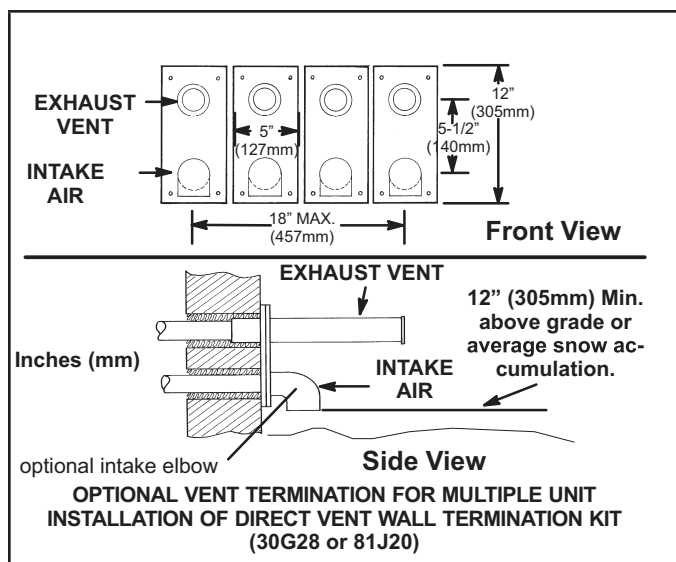

FIGURE 38
- 8 - A multiple furnace installation may use a group of up to four terminations assembled together horizontally, as shown in FIGURE 38.